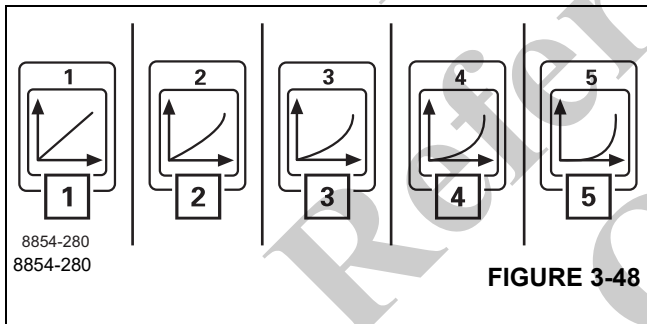

FIGURE 3-48
| 1    | Swing function curve                                 | Figure 3-48 |
| 2    | Boom lift function curve                             | Figure 3-48 |
| 3    | Main hoist curve                                     | Figure 3-48 |
| 4    | Luffing boom extension function curve (1) | Figure 3-48 |
| 5    | Auxiliary hoist function curve (1)        | Figure 3-48 |
| 6    | Reset function curves                                | Figure 3-48 |
The higher the number of the characteristic curve, (1), (Figure 3-48) to (5), the further the control lever must be moved to get an increase in speed.